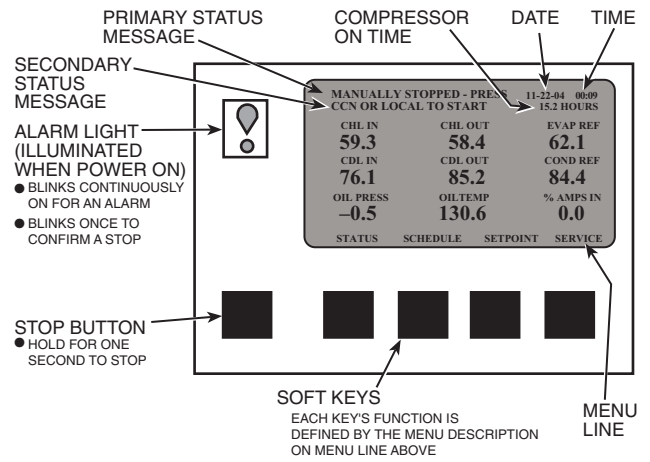

Fig. 15 — ICVC Default Screen
- The ICVC display automatically reverts to the default screen after 15 minutes if no softkey activity takes place (Fig. 15).